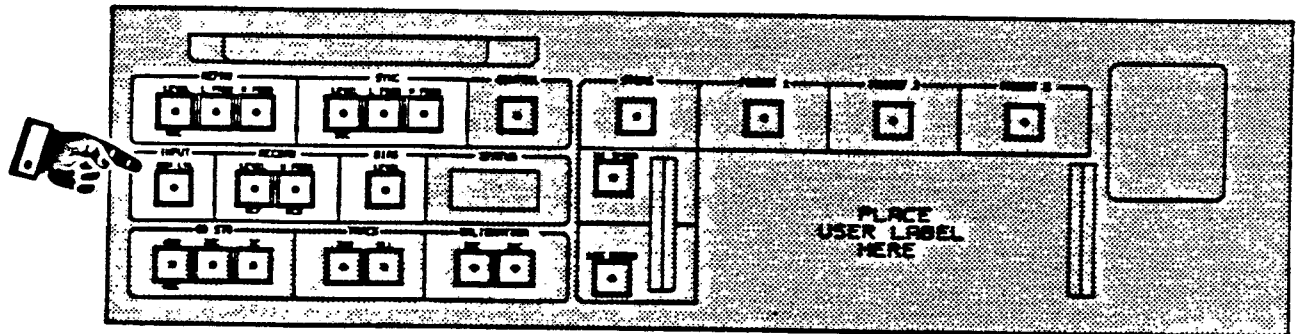

Figure 6-27. MON LVL Key Location
STEP 7 Press the MON LVL key located in the INPUT section of the ALN Panel (Refer to Figure 6-27).